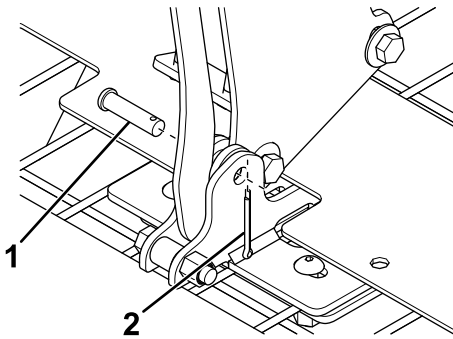

Figure 22
- Secure the cover to the top screen using 2 clevis and cotter pins (Figure 22).